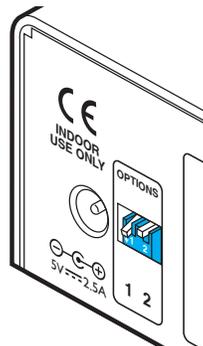

Figure 4-3. Click option switch 1 to the ON (down) position.
- 3 On the rear panel, click option switch 1 to the ON (down) position. See Figure 4-3.